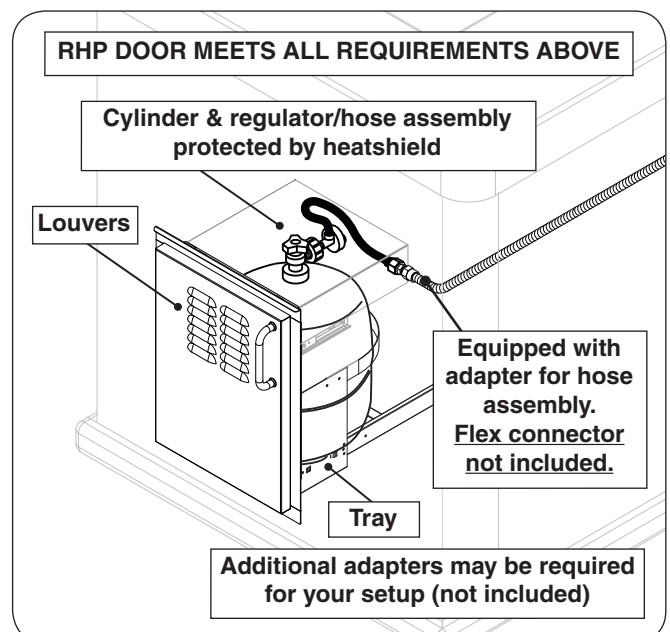

Fig. 9-3 Optional door w/ tank tray & louvers
**AOG offers an "access door with tank tray and louvers" which includes a heatshield that rests directly above the L.P. cylinder, a tray, and louvers to meet the cylinder install requirements. The door is shown in Fig. 9-3. Contact your dealer for ordering information.**